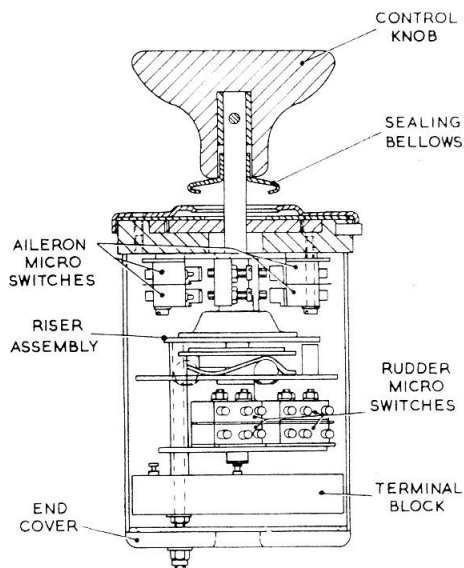

Fig. 2. Sectional view of trim switch
2. A sectional view of the switch is given in fig. 2. It is operated by a hand control knob fastened to a shaft which has a universal coupling on its end. The shaft carries an operating plate, so shaped that movement of the control knob to the right or left closes the appropriate micro switch, so giving a supply to the appropriate field of the relevant aileron trimming actuator. Spring-loaded plungers automatically return the knob to the neutral position when the operating pressure is released.